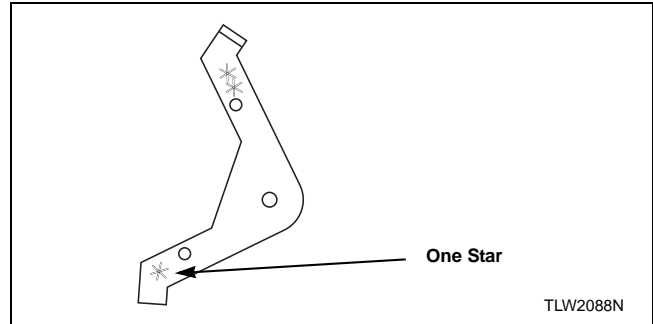

Figure 39
2. Install extension lever with arm that has one star facing down. Refer to Figure 39.